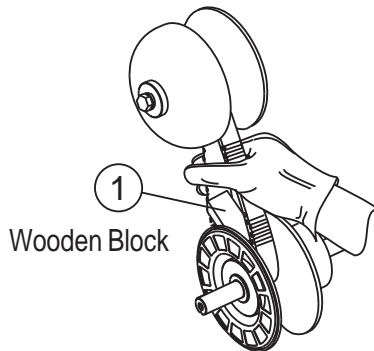

Figure 18. Holding Lower Pulley Open
3. **Insert** the 3/4" X 1" X 3-1/4" block between the moveable face and the fixed face of the lower drive pulley. See Figure 18. This block will help keep the lower drive pulley faces open while installing the new drive belt.